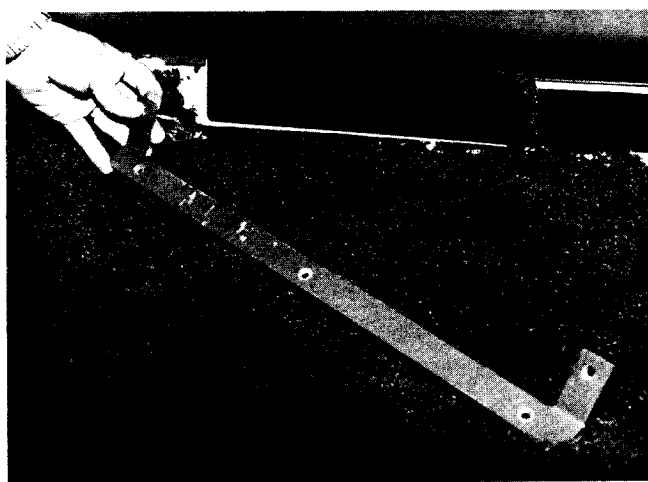

FIGURE 27
34. Remove and discard carpet trim strip around "recirc" hole (Figure 27).